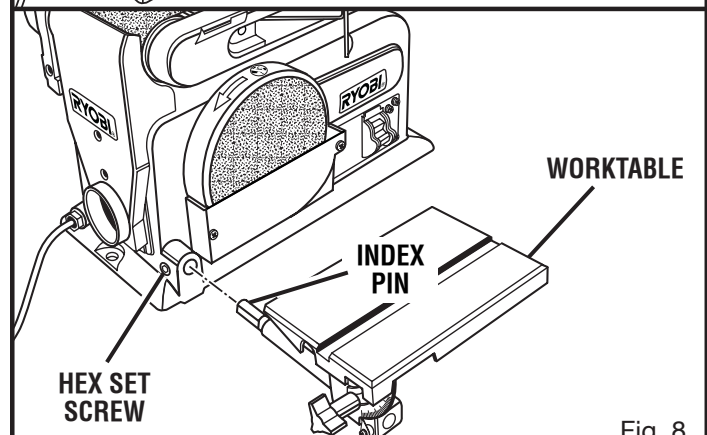

Fig. 8
See Figure 8.
- Insert the index pin into the hole as shown in figure 8.